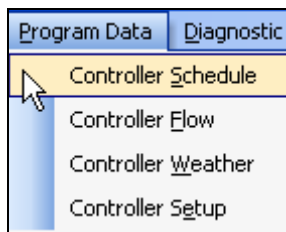

Figure 16.1.1D
1. In the toolbar at the top of the screen select **Program Data** and then scroll down to the words **Controller Schedule** and click on it (Figure 16.1.1D).